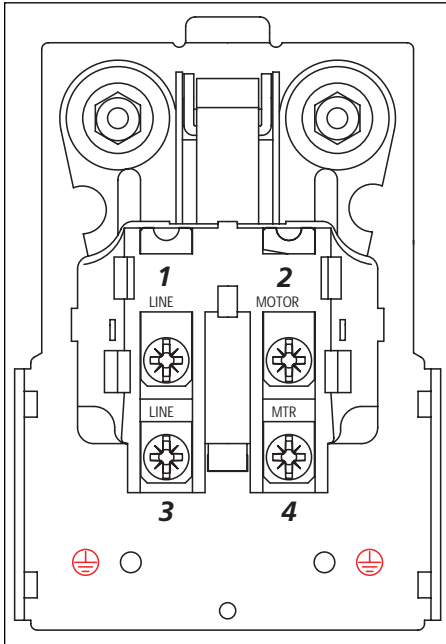

Figure 4
- Position black motor wire underneath screw head #4 (See Fig. 4), then tighten screw to secure wire. Position black line wire underneath screw head #3, then tighten screw to secure wire.
- Position white line wire underneath screw head #1, then tighten screw to secure wire. Position white motor wire underneath screw head #2, then tighten screw to secure wire (See Fig. 4).